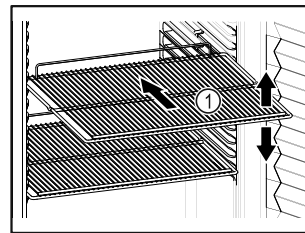

Fig. 60 Example illustration
- ❑ If there are adjustable shelves Fig. 60 (1), position them as required.